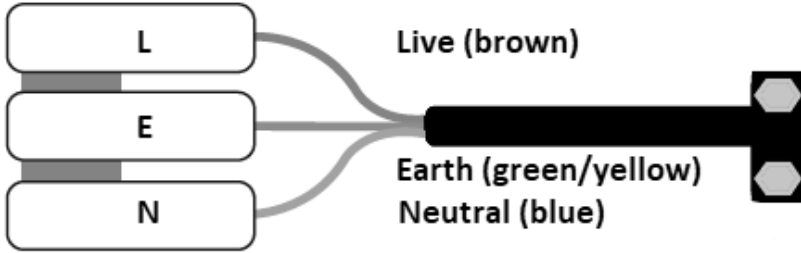

Fig. 2
- Connect the Live (brown), Neutral (blue) and Earth (green/yellow) to the terminals on the terminal block of the chosen LED plate ensuring the cable is secured in the cable clamp (see Fig. 2)